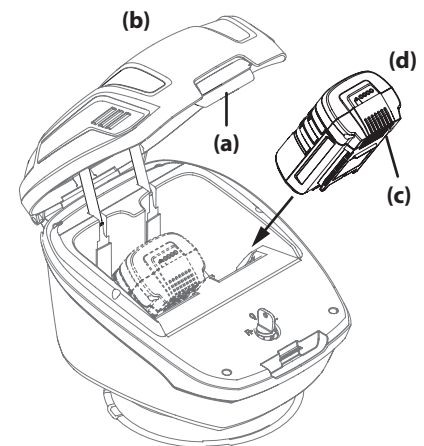

Figure 2-13
2. With the battery release button (c) facing down, slide the battery (d) into empty battery port. See Figure 2-13.